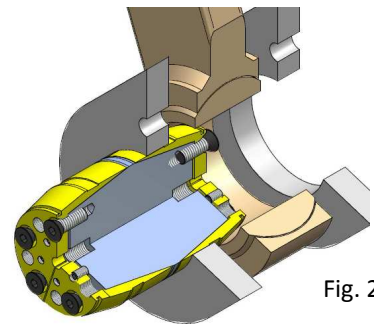

Fig. 2
- 2.2 Fit The bolt in the joint with the inner cone (27) still mounted (see Fig. 2).
- 3.2 To prevent further expansion on the inner cone sleeves (27) mount all the pin screws (26c) again as shown in Fig 2 (use Locktite), and tighten up with specified torque (see table).